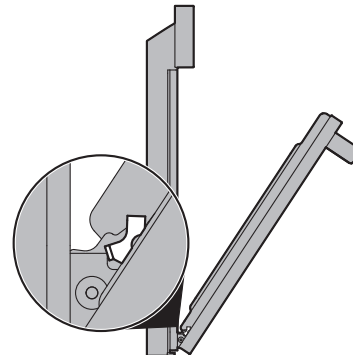

Figure 19: Removal position
3. Grasp the door by the sides, and close the door until the door frame makes contact with the unlocked hinges (Figure 19).
2. Hold the oven door at the same angle as the removal position (Figure 19). Carefully insert the hinge levers into the oven frame until you feel the hinge levers are seated into the hinge notches. The hinge arms must be fully seated into the hinge notches before the oven door can be fully opened.